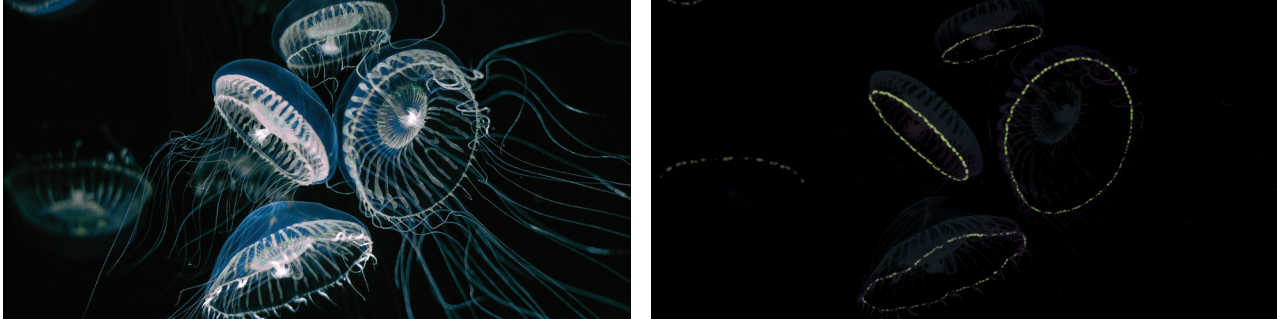

Fig. 1. *Aequorea victoria* jellyfish glow shown under visible light on the left and under UV light on the right.
The species of jellyfish shown in Figure 1, *Aequorea victoria*, are naturally fluorescent and glow green under ultraviolet (UV) light. The jellyfish genome has a gene that codes for green fluorescent protein (GFP). Each cell of the jellyfish has a full copy of the genome that includes the gene that codes for GFP. The cells use the gene to synthesize GFP inside themselves.
C. What are some similarities you notice between the bacteria you observed in the video and the jellyfish in Figure 1?
D. What are some differences you notice between the bacteria you observed in the video and the jellyfish in Figure 1?